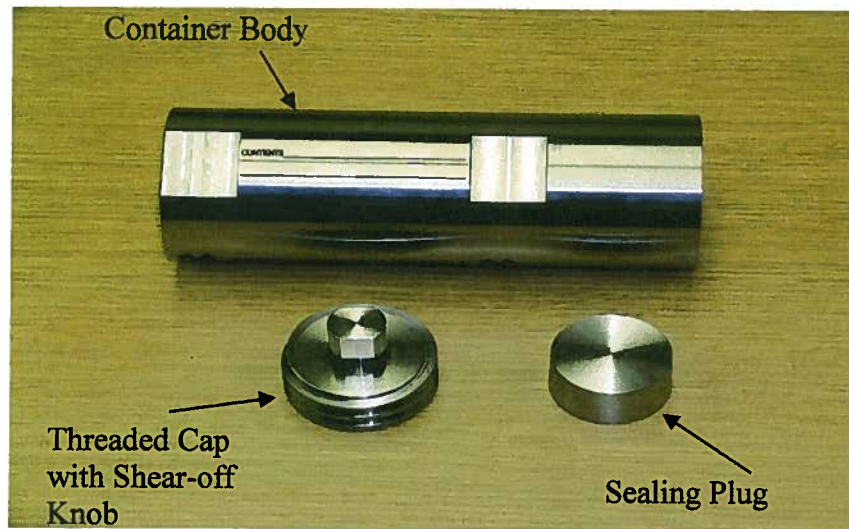

Figure 1: Model I and III Special Form Capsule Components
- c. Verify the following items are available in the package (Figures 1 and 2):